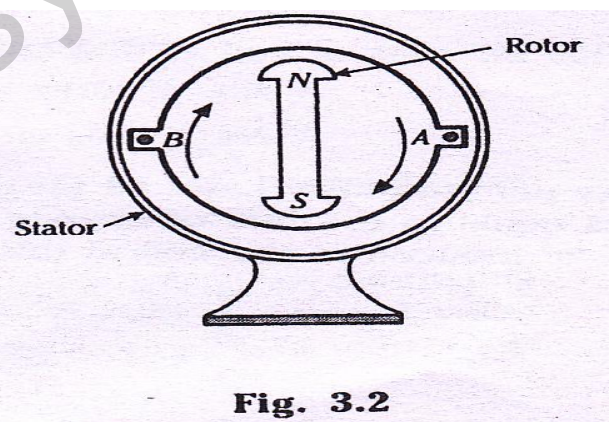

Fig. 3.2
- By rotating a magnetic field within a stationary coil as shown in Fig.3.2.